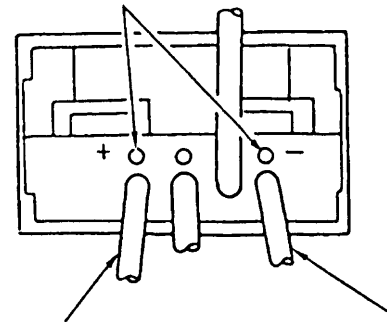

Fig. 2
Disconnect the Internal Wires (B) [9] [10] from the Motor [8] by melting their soldered connections with a soldering iron. The Internal Wires (B) [9] [10] and the Terminals [22] [24] can be extracted from the terminals of the Switch [20] by inserting a J-86 Pin (Special Repair Tool, Code No. 970828) into the holes provided on the Switch, as illustrated in Fig. 2, and bending the leaf springs away from the inner walls of the terminals of the Switch so that the leadwires can be gently pulled out by hand. However, when extracting the leadwires, special attention must be given to the following points: